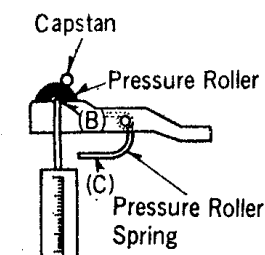

Figure 2
**Pressure roller** (Figure 2). Hook tension gauge over pressure roller spindle B upper end, and check tension required to just pull roller from capstan (300 to 440gr). Bend lug C of pressure roll spring to obtain condition.